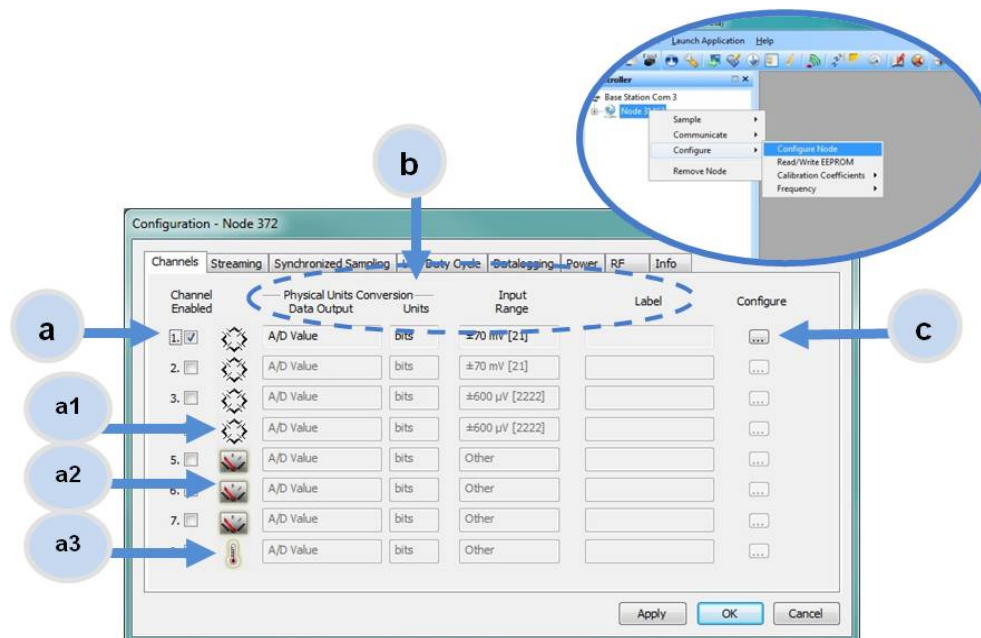

Figure 46 - Node Channels Menu
2. To enter the channel configuration menu select the channel Configure button as shown in Figure 46 - Node Channels Menu. The channel must be enabled first by selecting its adjacent check box. The channel configuration menu options change depending on the sensor type selected. Below is a description of possible settings.